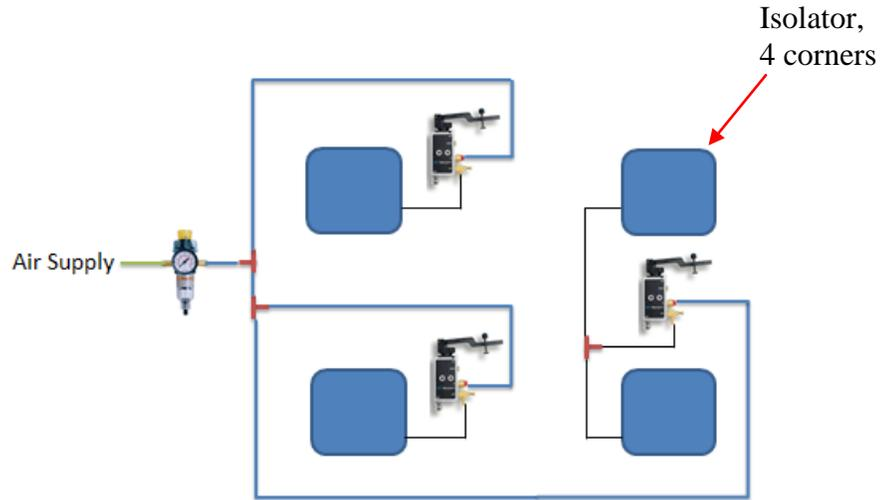
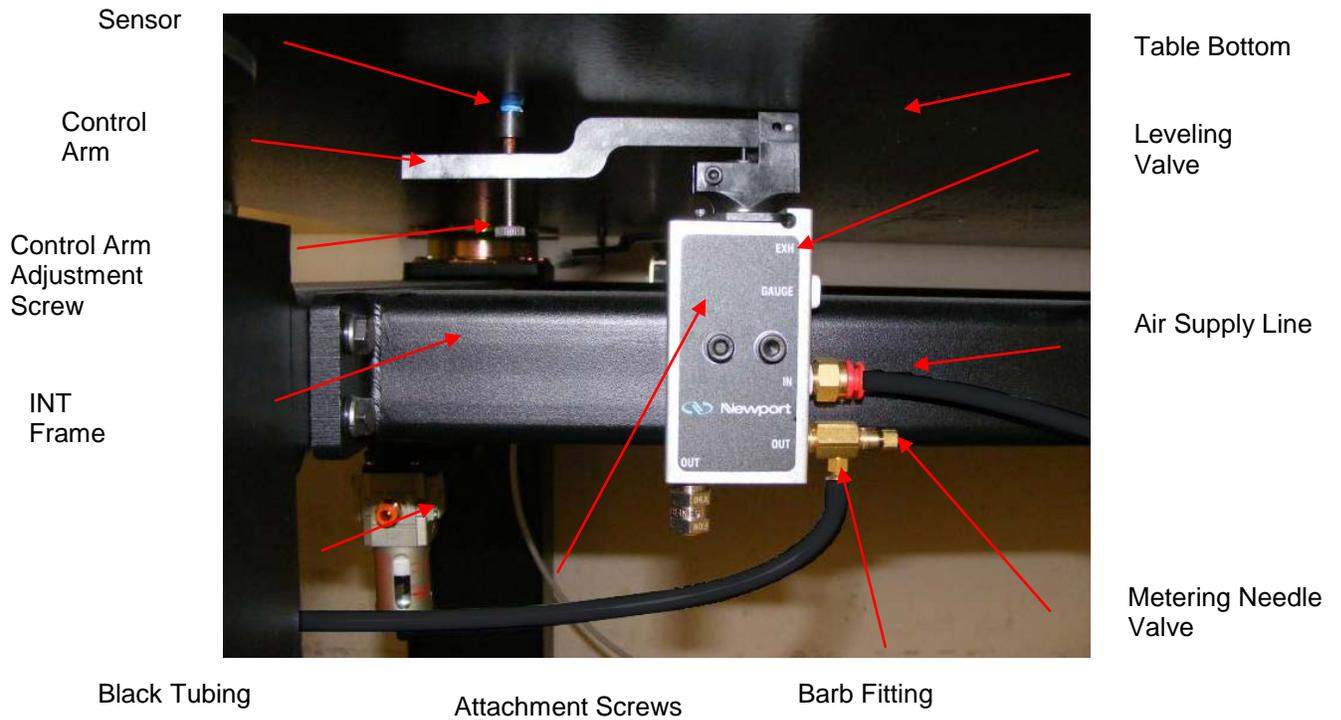
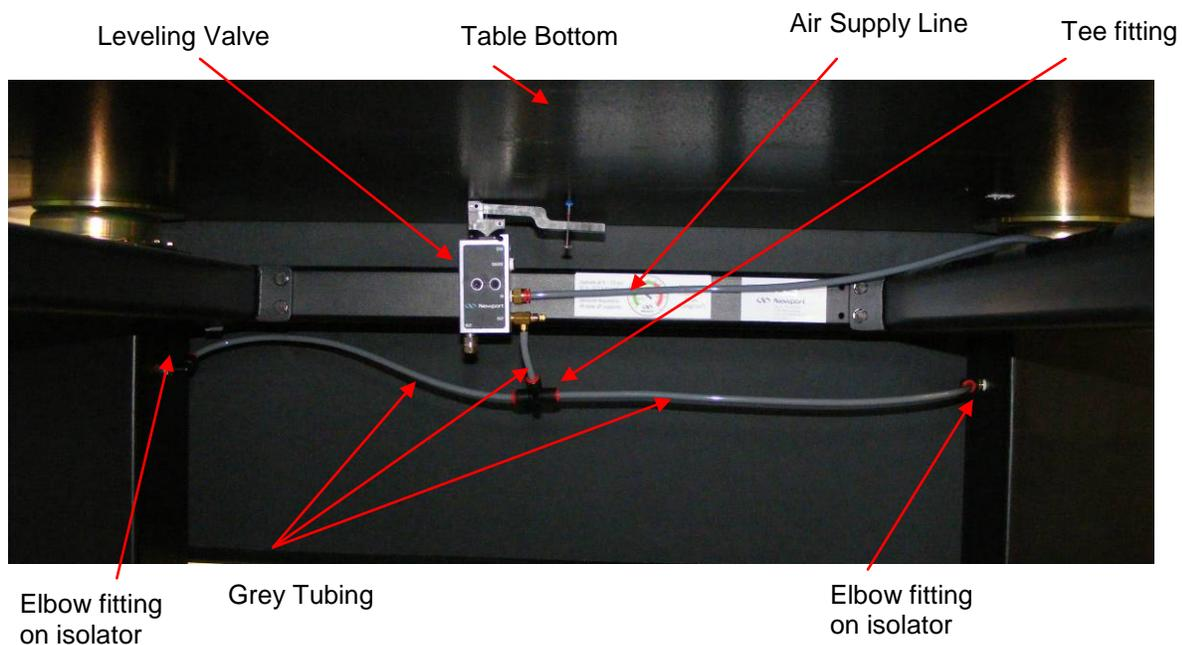

Figure 11
Figure 12
Figure 13
The IPV leveling valve is shown in Figure 12. Three valves are used in all systems as only three points are required to determine a plane. The leveling valve locations are selected such that they form the largest triangle possible under the table. The larger the triangle, the more stable the system will be. When two or more isolators are controlled by the same valve, they act as a single large isolator supporting the table at the center of force of the several isolators. The floating height of the system is determined at the valve position.
Connect air lines to the isolators as shown in Figure 11, Figure 12 and Figure 13. When cutting tubing, be sure the ends are round and cut squarely. This is best done with a single edge razor blade (scissors will deform the tubing, causing leaks). The connections are detailed in Figures 11, 12 and 13.
1. Close the metering needle valve (figure 12) on each isolator then open it ¼ turn.
2. Adjust the control arm adjustment screw of each valve (Figure 12) as required to obtain floating height. When all isolators are adjusted, re-check the level of the payload. NOTE: this step should require only minor adjustments. Do not move the small set screw near the pivot of the valve control arm.